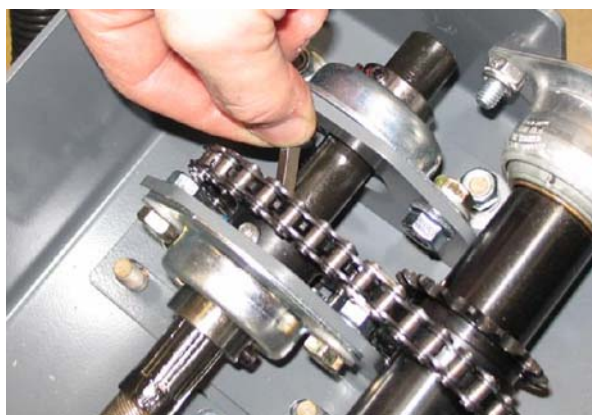
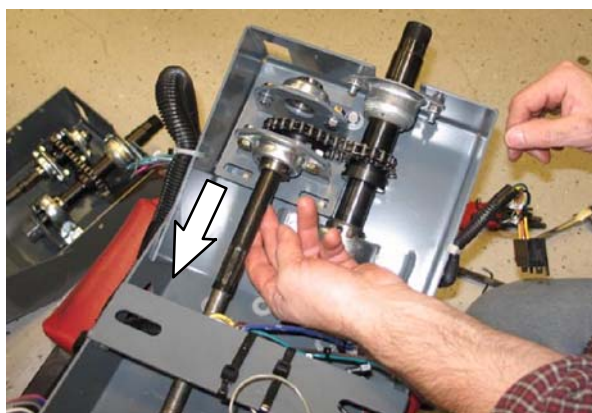

FIG. 26
FIG. 27
22. Remove the key and the steering shaft from the steering channel. Discard the key and steering shaft. (Fig. 26 / Fig. 27)